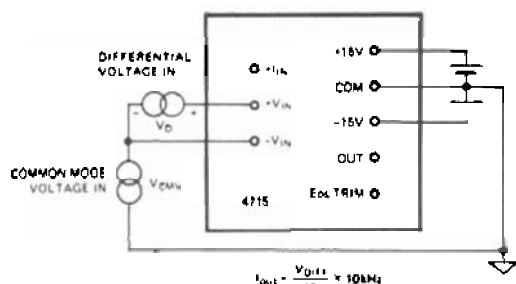

Figure 5G. Definition of Differential & Common Mode Voltage
- ① After trim @ 10 Hz and 10 kHz
- ② See Fig. 5G for definition
- ③ Constant voltage at Zero trim pin
- ④ Temperature coefficients measured from +20°C to +70°C.
To use the 4715 voltage inputs differentially, several simple conventions (definitions) must be observed as illustrated in Figure 5G.